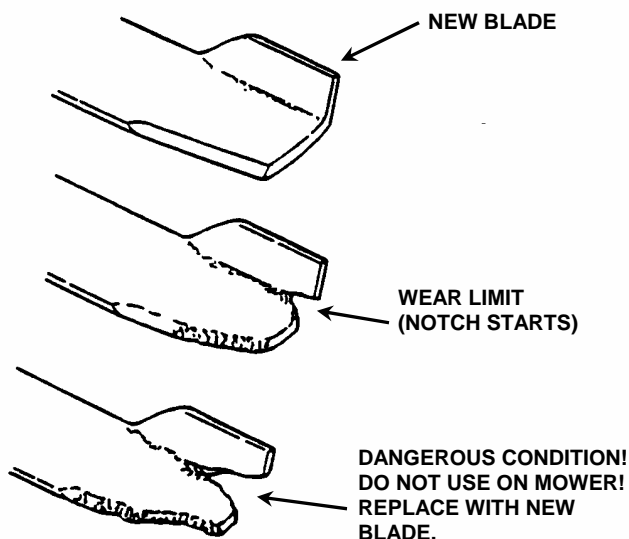

FIGURE 5.4
Check Blades at frequent intervals to insure they are securely tightened and in good condition. Replace if chipped, bent, or notched. See Figure 5.4 for Blade wear limits.
3. Clean and inspect each Blade for excessive wear and damage. See Figure 5.4 for Blade wear limits.